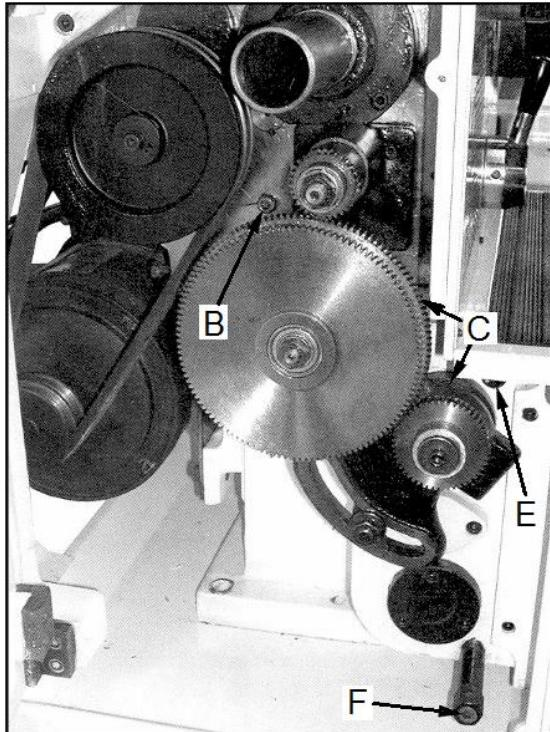

Fig 23
plug (B, Fig 23).
Fill oil by removing plug (E, Fig 23).
**Drain oil after first month of operation** by removing drain plug (F, Fig 23). Refill with oil.
Coat all gears with grease (C, Fig 23).